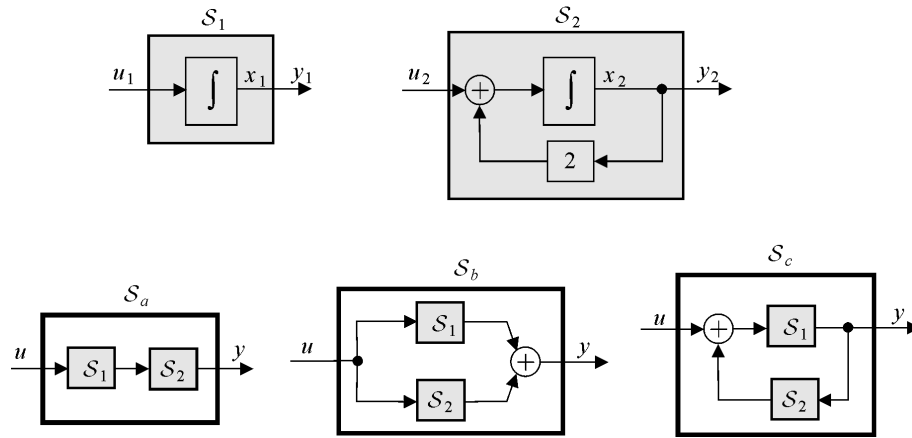

Figure 4.7: Composition of systems
Let us consider the systems  $\mathcal{S}_1$  and  $\mathcal{S}_2$  given on top of Figure 4.7.
- 3) Do the same with the system  $\mathcal{S}_c$  obtained by looping  $\mathcal{S}_1$  by  $\mathcal{S}_2$  as represented on Figure 4.7.